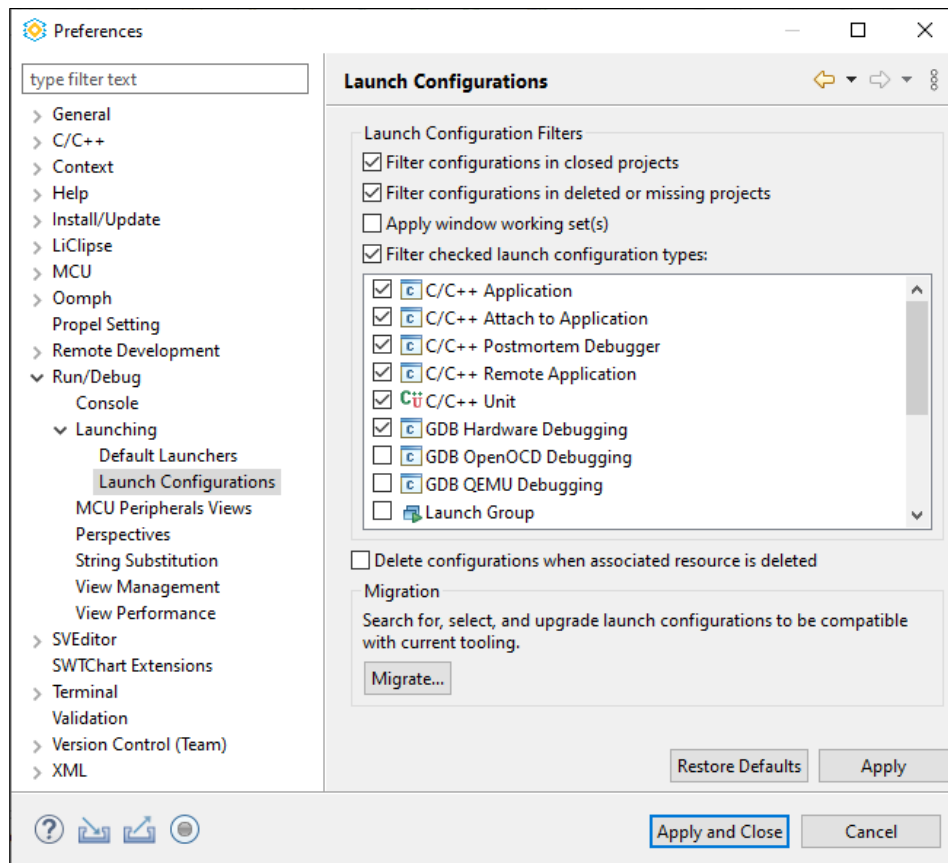

Figure 3.42. Launch Configurations
**Note:** By default, **C/C++ Application**, **C/C++ Attach to Application**, **C/C++ Postmortem Debugger**, **C/C++ Remote Application**, **C/C++ Unit**, and **GDB Hardware Debugging** are hidden on the Debug Configurations page. If you want to use them, you can disable **Filter checked launch configuration types** (Figure 3.42).